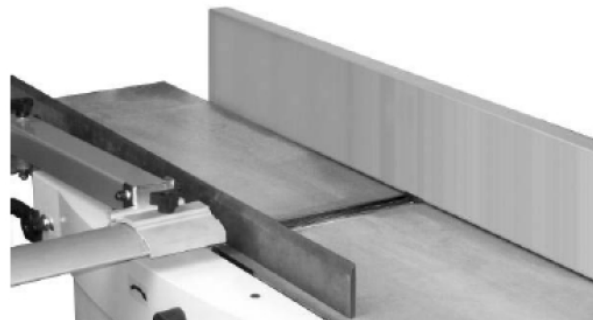

Fig. 12: Table setting
- Step 7: Move the straight edge to the back of the output table as shown in Fig. 12 and perform the test for this as well.
- One end of the straightedge should be positioned over the cutting knife (C) near the end of the blade as shown in Fig. 12.